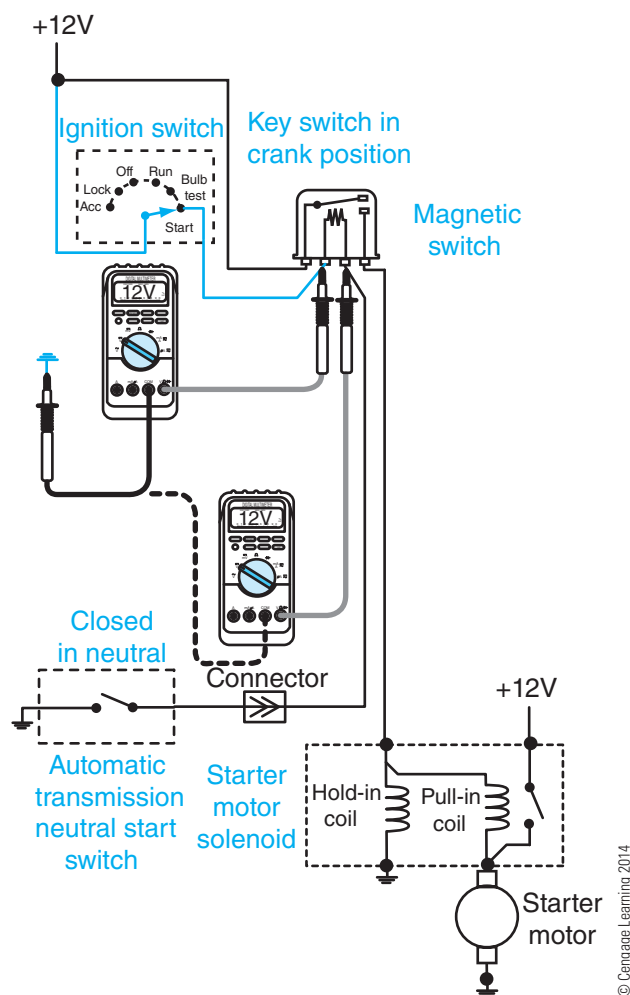

Figure 8-31 DMM measuring high and low side of magnetic switch coil during crank.
Step 4.3 is to find and isolate the problem. Using a voltmeter, you determine that there are +12V referenced to chassis ground at the high side of the magnetic switch coil with the key switch in the crank position, as shown in **Figure 8-31**. This rules out a problem with the high side of the magnetic switch control circuit. You also determine that there are +12V at the low side of the magnetic switch coil referenced to ground when attempts are made to crank the engine. This indicates that the low side of the magnetic switch is not being grounded. If the low side of the magnetic switch coil were being grounded by the neutral switch, the voltmeter should have indicated 0V. This +12V measurement at the low side of the magnetic switch coil referenced to ground with the key switch in the crank position also indicates continuity through the magnetic switch coil, so the magnetic switch is likely not the source of the no-crank problem.